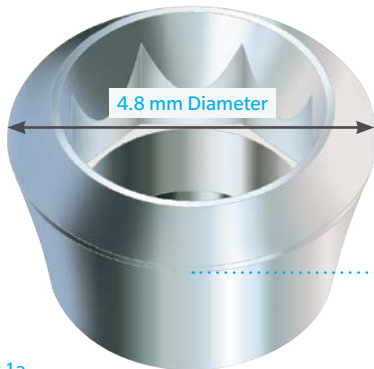

Fig. 1a
- 4.8 mmD platform - (Fig. 1a and b). A 45° external beveled shoulder tapers up from the height of contour of the implant to the coronal area, which has a 3.5 mmD opening. The height of this bevel is approximately 0.6 mm above the height of contour. From the edge of the opening, a 8° tapered internal beveled wall leads into a 3.0 mmD flat-to-flat octagon which is 1.5 mm deep. Below the octagon is a continuation of the 8° bevel which leads into the threaded area where the fixation screw is received.